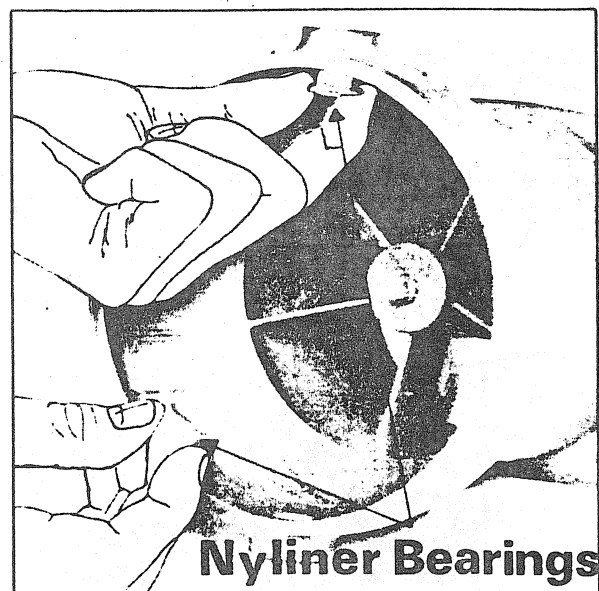

FIGURE 14
- Place the two (2) nyliner bearings into the bowl with the flanges on the inside (fig. 14).